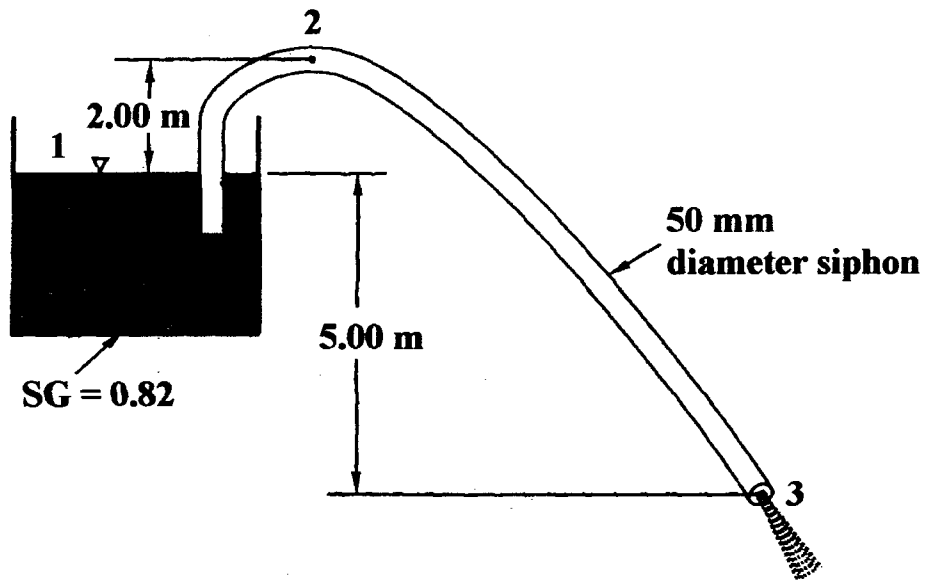

Figure Q3 / Rajah S3
- (b) 50-mm-diameter siphon was used to draw an oil (SG = 0.82) from the oil reservoir as shown in Figure Q3, the head loss from point 1 to point 2 is 1.50 m and from point 2 to point 3 is 2.40 m. Find the discharge of oil from the siphon and the oil pressure at point 2.